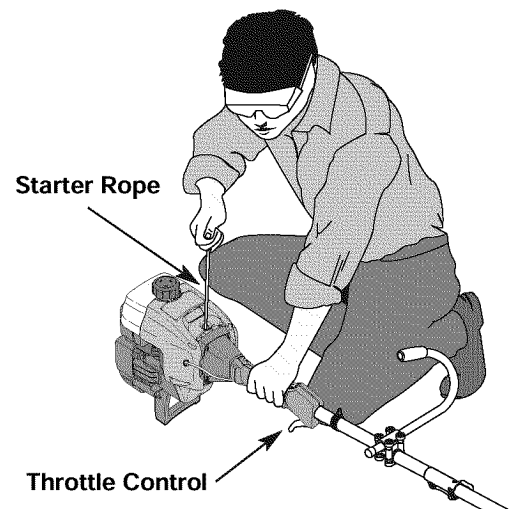

Fig. 9
**WARNING:** Avoid accidental starting. Make sure you are in the starting position when pulling the starter rope (Fig. 9). To avoid serious injury, the operator and unit must be in a stable position while starting.
5. With the unit in the starting position, **DO NOT SQUEEZE THE THROTTLE CONTROL** (Fig. 9). Pull the starter rope 5 times briskly, making sure the EZ-Start™ lever is pushed to the left.
1. Release your hand from the throttle control (Fig. 9). Allow the engine to cool down by idling.